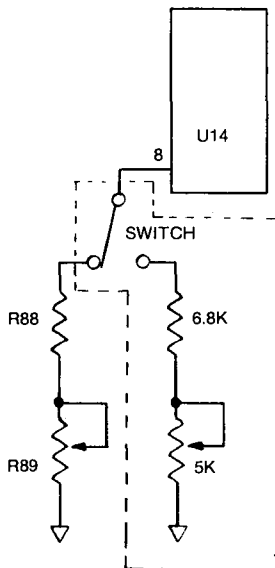

Fig. 1
Some customers who have transceivers with a RTTY FSK position built in have asked how they can use their CP-1 with FSK. Figure 1 shows a simple circuit consisting of a small signal type NPN transistor (2N2222) and three resistors. This circuit can be wired inside the CP-1 and then connected to the DEMOD OUT jack (on rear panel), provided the PCB traces to the Demod Out jack are CUT. Note that this circuit gives low MARK, high level SPACE output. For high MARK output, another inverter transistor stage should be added (SEE FIGURE 2).
2. Locate and lift one side of R88 (side shown in Fig. 1) and connect it to one side of SPDT switch.
3. On the other side of the switch, place a 6.8k resistor and a 5k pot to ground (shown in Fig. 1).